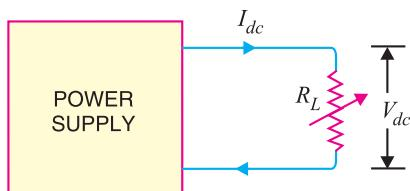

Fig. 17.2
- (i) **Voltage regulation.** The d.c. voltage available across the output terminals of a given power supply depends upon load current. If the load current  $I_{dc}$  is increased by decreasing  $R_L$  (See Fig. 17.2), there is greater voltage drop in the power supply and hence smaller d.c. output voltage will be available. Reverse will happen if the load current decreases. The variation of output voltage w.r.t. the amount of load current drawn from the power supply is known as *voltage regulation* and is expressed by the following relation :